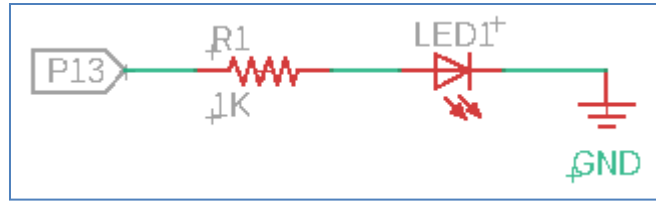

Figure 1: Schematic for a single LED
1. Assemble the circuit from the schematic in Figure 1 on a breadboard. Connect cathode (short lead) to ground. Connect a 1k resistors from the anode (long lead) of the LED to the Arduino digital pin 13.